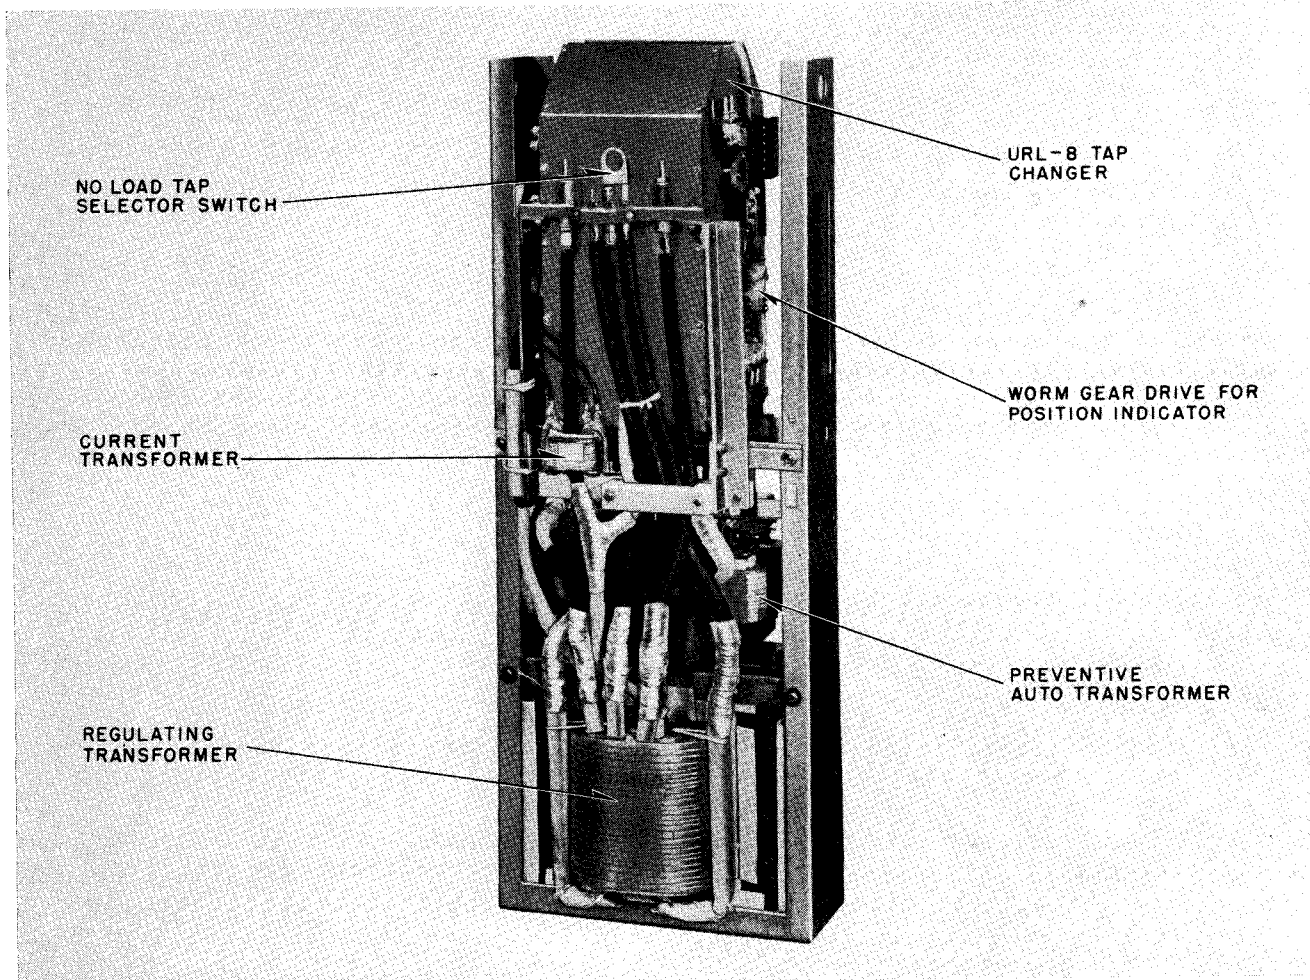

FIG. 2. URL-8 Regulator Core and Coil Assembly.
**Regulator Core and Coil Assembly.** The regulator core and coil assembly (see Fig. 2) consists of a tapped regulating auto-transformer with a Type C Hipersil core, a preventive auto-transformer, a load tap changer and a no-load tap selector switch, all mounted on a common frame.